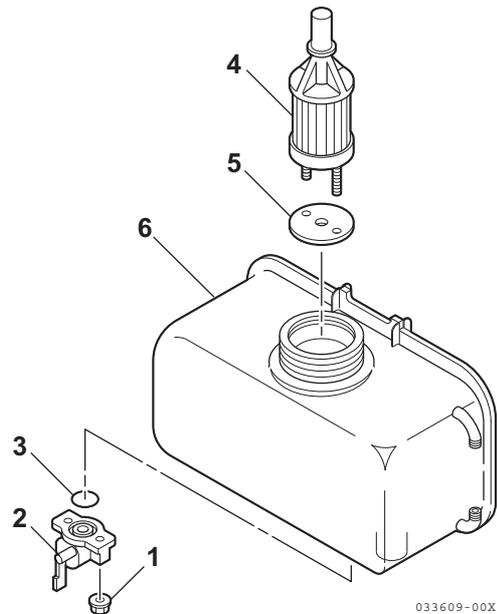

Figure 9
4. Loosen the fuel cock nuts (**Figure 9, (1)**) on either side of the fuel cock (**Figure 9, (2)**).
5. Remove and discard the O-ring (**Figure 9, (3)**).
6. Pull the outlet fuel filter (**Figure 9, (4)**) and gasket (**Figure 9, (5)**) out of the fuel tank filler port (**Figure 9, (6)**).
7. Install a new outlet fuel filter (**Figure 9, (4)**) and gasket (**Figure 9, (5)**) through the fuel tank filler port (**Figure 9, (6)**) and seat in the fuel tank.
8. Install a new O-ring (**Figure 9, (3)**) on the fuel cock (**Figure 9, (2)**) and fasten the assembly to the fuel tank using the fuel cock nuts (**Figure 9, (1)**).